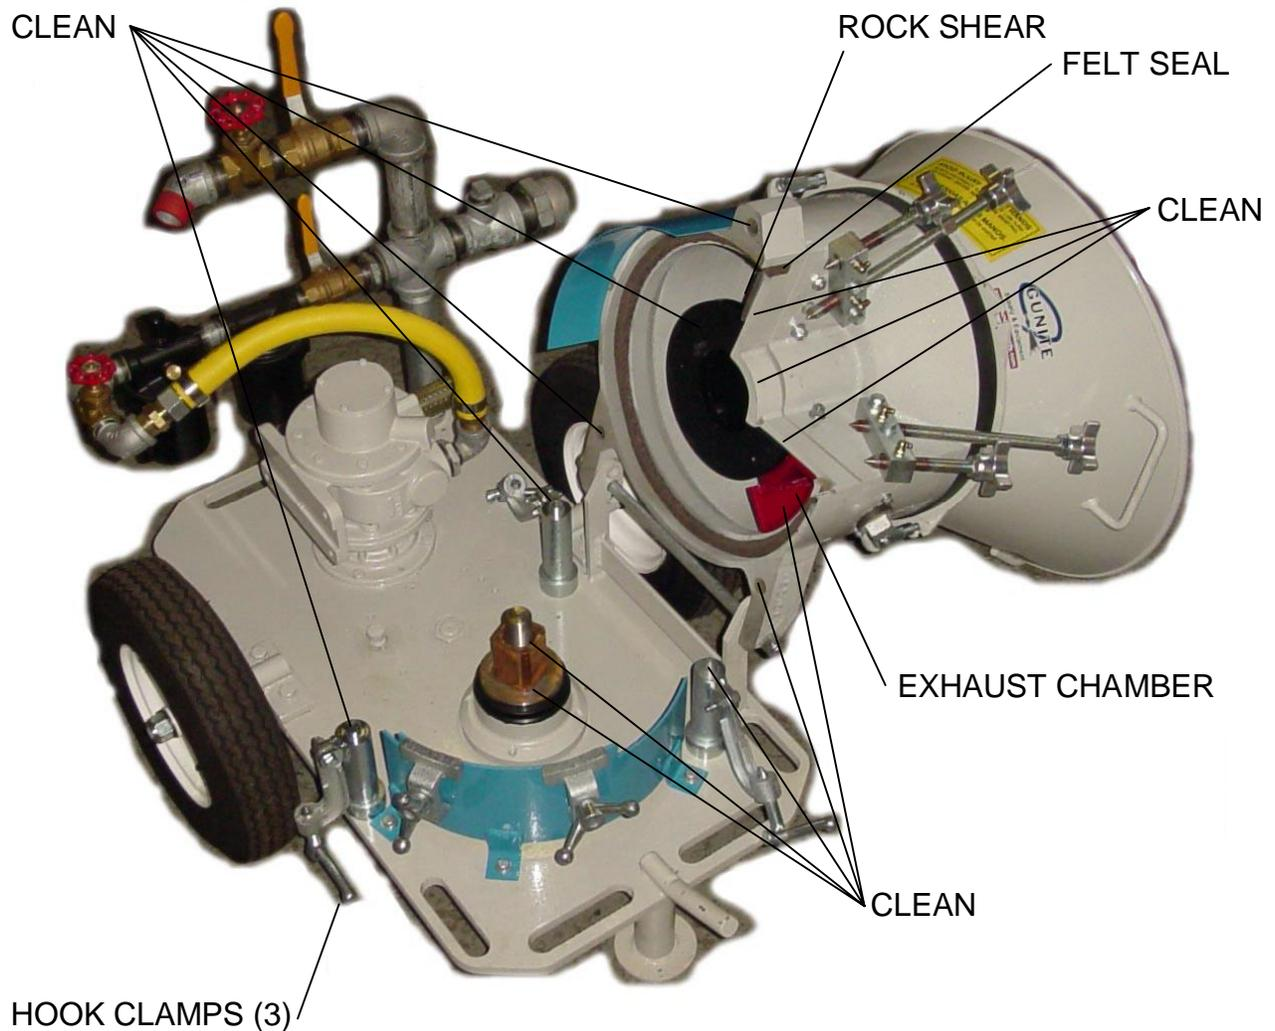

FIGURE 4
5. Tilt away the hopper, this will expose the felt seal and the exhaust chamber which are mounted at the underside of the hopper. See Figure 4.
6. Clean out the exhaust chamber (Figure 4).
11. Check the condition of the rock shear. The bottom corner away from the pad should be square and even. It can be flipped over or turned end for end for 4 new working surfaces before it must be replaced. The rock shear height will be adjusted after the hopper is back down and in place. See Figure 4.